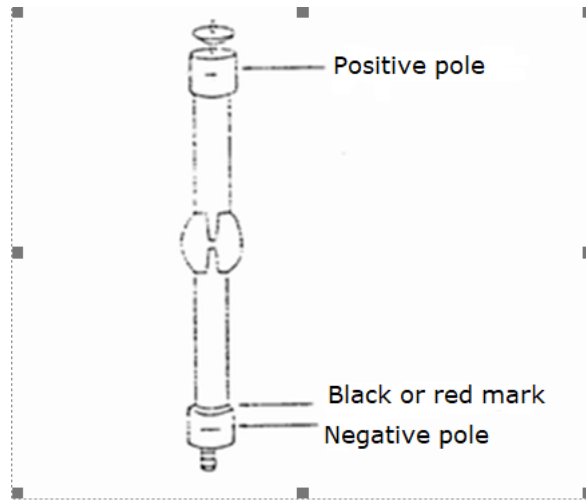

Figure 1-5 Schematic diagram of xenon lamp profile
- 3) Profile of xenon lamp for reference (Figure 1-5);